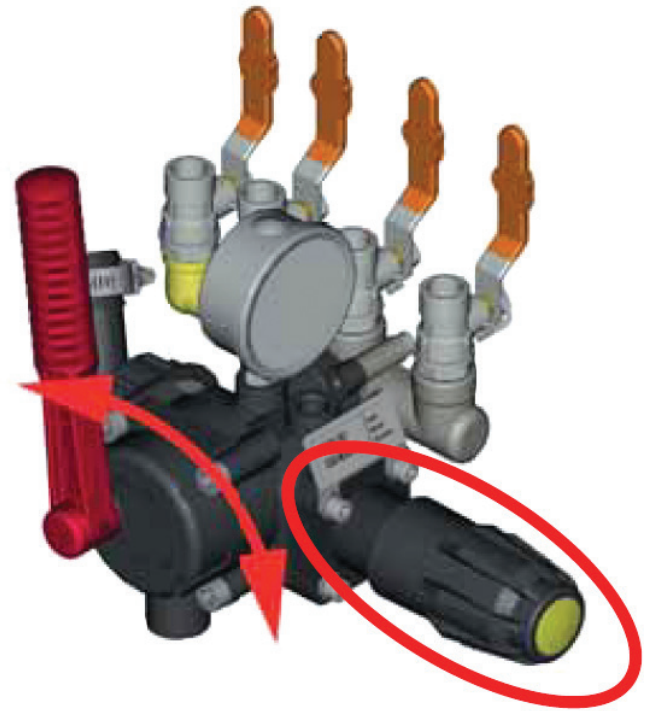

Figure 21: OSR Regulator
3.) Open one of the taps by placing the regulator's by-pass handle to the pressure position and let all the air out by operating the pump at zero pressure for 1, 2 minutes. (On FPR regulators) (Figure 21)